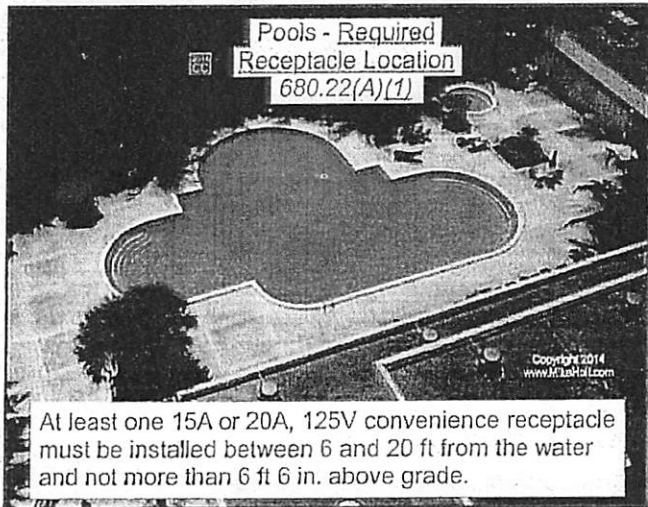

Figure 680-22
(1) **Required Receptacle Location.** One 15A or 20A, 125V receptacle must be located not less than 6 ft and not more than 20 ft from the inside wall of a permanently installed pool, outdoor spa, or outdoor hot tub. This receptacle must be located not more than 6½ ft above the floor, platform, or grade level serving the permanently installed pool, outdoor spa, or outdoor hot tub. Figure 680-22